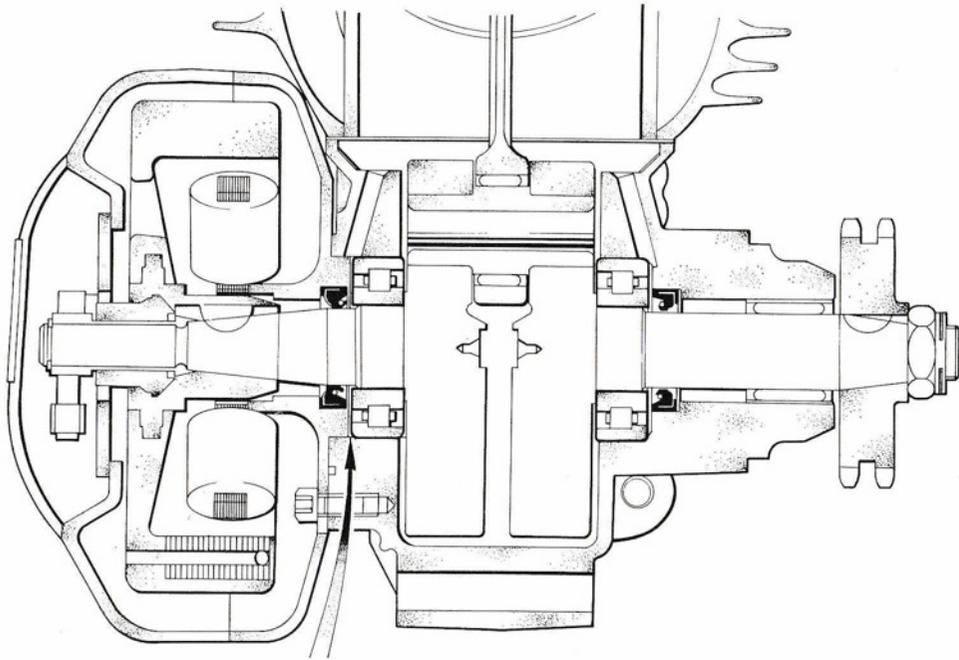

Fig. 26 Diagram of crankshaft fitted in crankcases—arrow indicates point of shimming crankshaft and float.
- 12 Lower the drive shaft through the bearings and seals taking care not to damage the oil seal lip whilst guiding the connecting rod into the crankcase mouth. A diagram showing the crankshaft in the cases is given in Fig. 26.